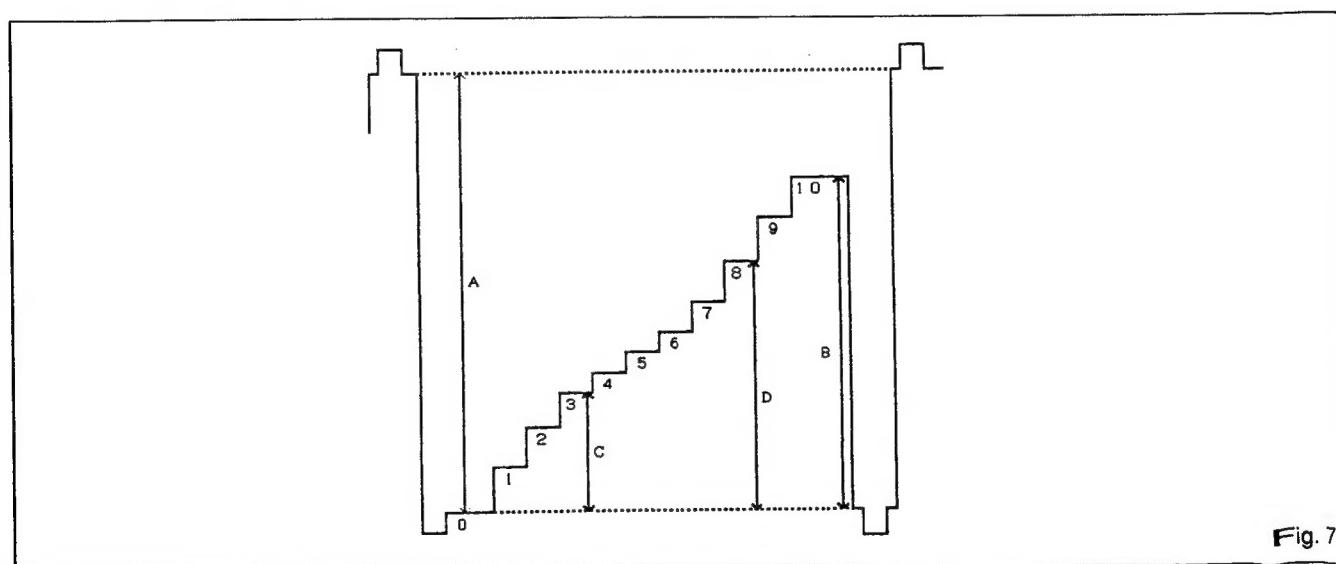

Fig. 7
(3) Adjust brightness (with UP or DOWN button) so that black - black level in Fig. 7 is 6V.
(4) Adjust the contrast VR (VR 408) so that voltage B at the 10th step of 10 step staircase is 4V.
(5) Adjust the gamma 1 VR (VR 404) so that voltage C at the 3rd step is 2V.
(6) Check that voltage B is 4V and that voltage C is 2V.
- (7) Set the APL of input image signal to 10%.
- (8) Adjust the peak limiter VR (VR 405) so that voltage B is 5.4V.
- (9) Adjust the gamma 1 VR (VR 404) so that voltage C is 2.4V.
- (10) Adjust the gamma 2VR (VR 403) so that voltage D at the 8th step is 4.6V.
- (11) Check that voltage B is 5.4V, that voltage C is 2.4V and that voltage D is 4.6V.